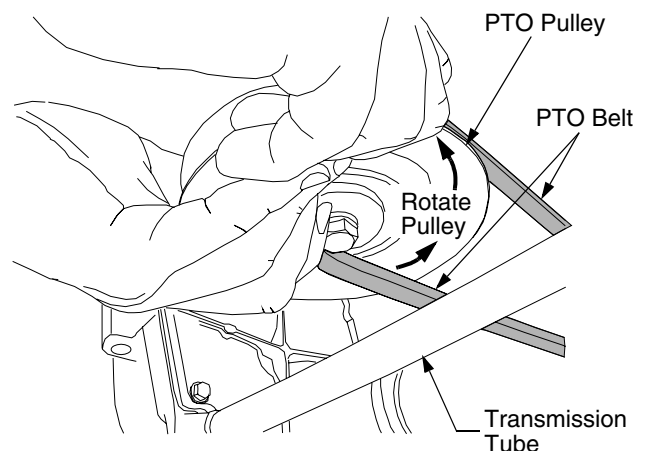

Figure 29
- While still holding the belt downward, continue turning the PTO pulley until the belt is rolled off the pulley. Refer to Figure 29
- Pull the right side of the belt rearward and place the narrow V side of the belt into the PTO pulley. See Figure 29.
- While holding the belt and pulley together, rotate the pulley to the left (See Figure 29). Continue holding and rotating the pulley and belt until the belt is fully rolled into the PTO pulley. **NOTE: If using the left side of the belt, turn the pulley to the right.**